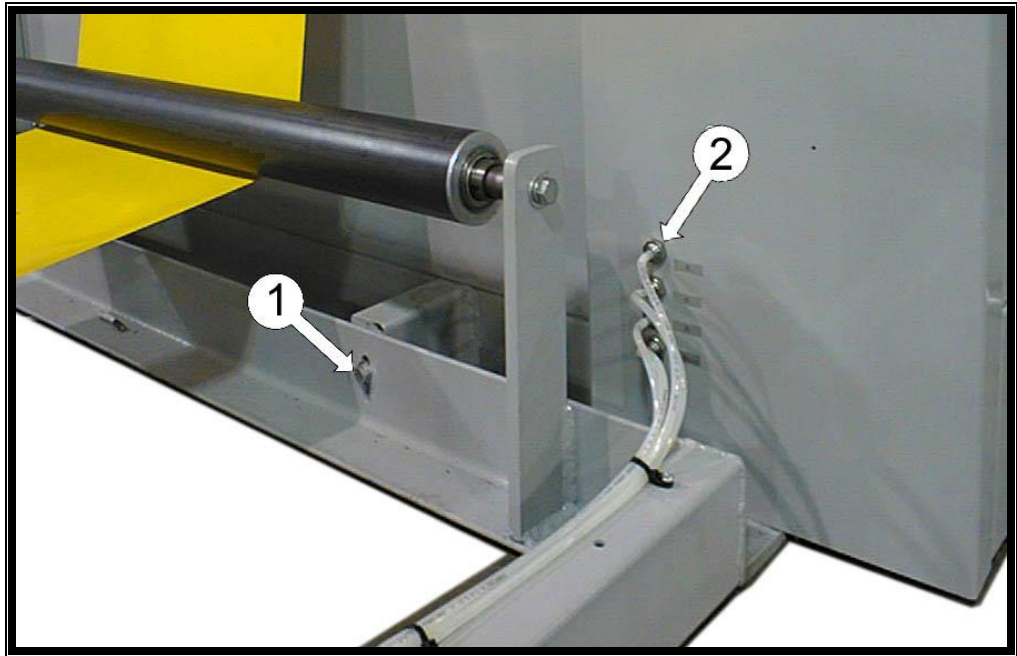

Figure 3: Unwind Assembly Detail
2. Attach the Unwind Stand as shown in Figure 3, using the provided hardware to bolt the base frame of the modules together, do not tighten the attachment bolts at this time.